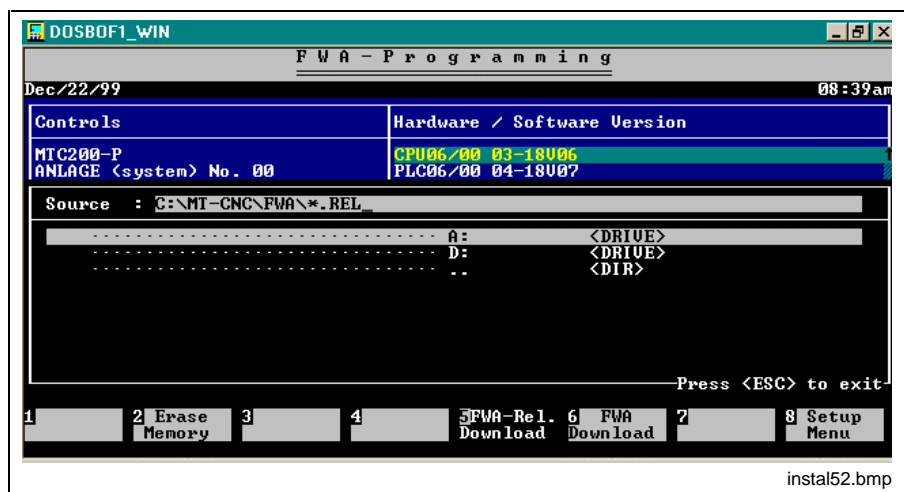

Figure 5-3: Complete firmware programming
- Figure 5-3: Complete firmware programming 5-3